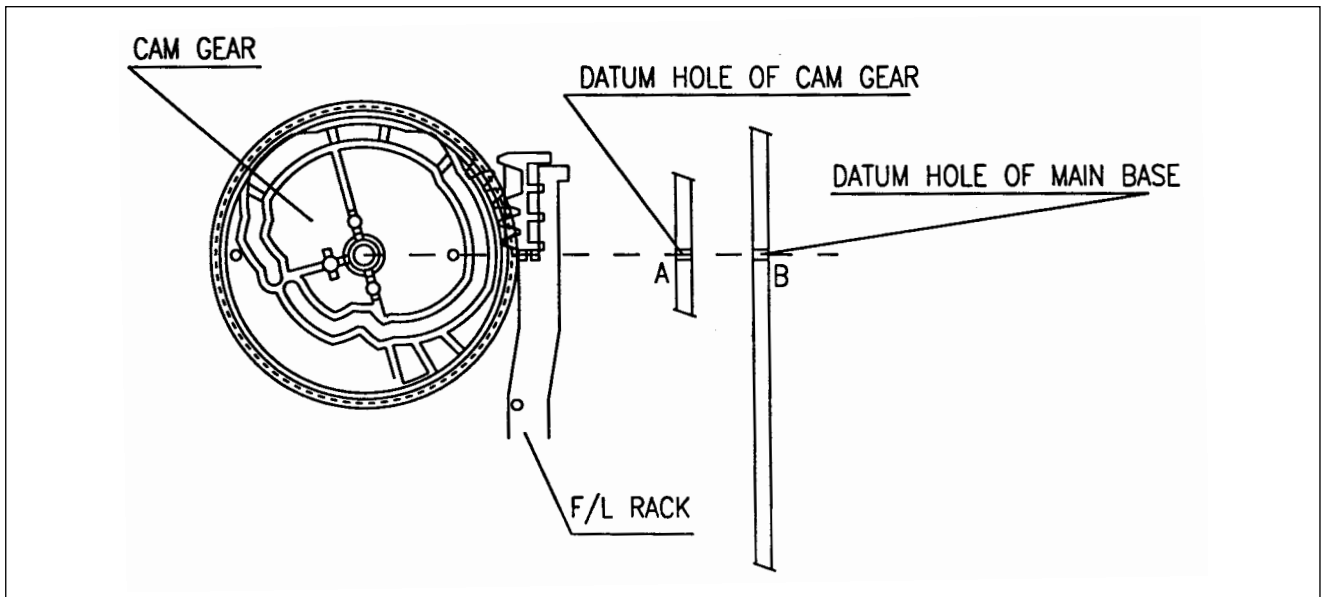

Fig. 1– Mechanical Checks/Cam Gear and F/L Alignmen
5. Mechanical Checks/Gear Alignment (fig. 1, 2, 3, 4, 5)
1. Make sure that the datum hole of the cam gear "A" is aligned with the hole "B" in the main base in the EJECT mode (fig. 1)